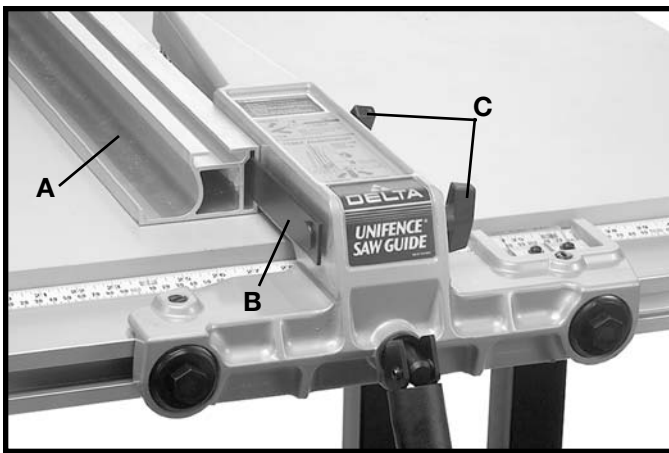
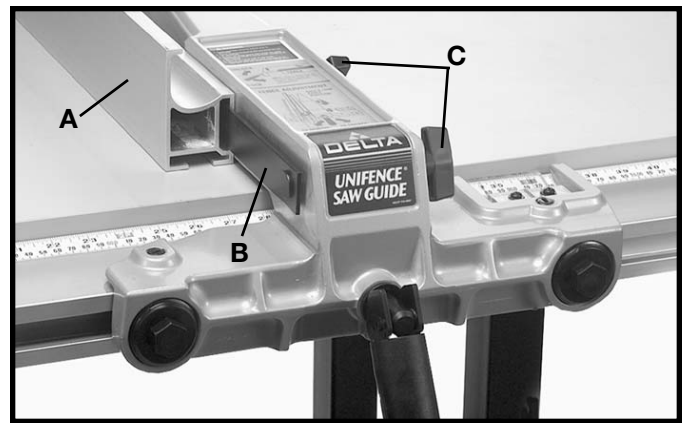

Fig. 66
Fig. 67
1. The fence (A) can be assembled to clamp plate (B) in either the horizontal position as shown in Fig. 66, or the vertical position as shown in Fig. 67. Make certain the two lock knobs, one of which is shown at (C), are loose and slide fence (A) onto clamp plate (B) as shown. Then tighten the two lock knobs (C).